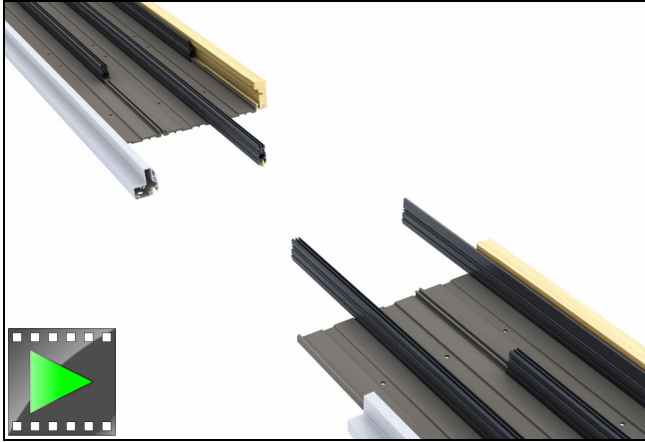

Figure 4
1. Lay out the head jamb sections top side down on a clean flat surface in the correct configuration. See figure 4.